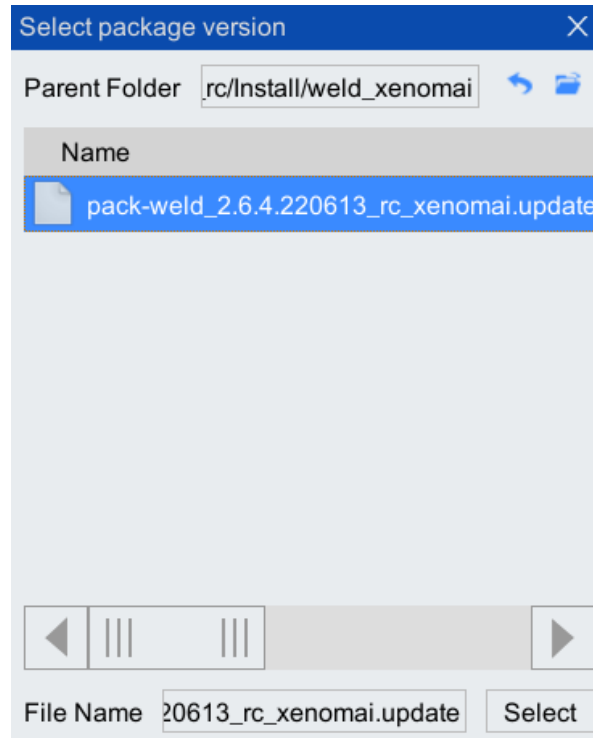

Figure 4-4 Selection interface of install feature pack
Step6. Double-click "USB" folder, find the arc welding package installation file under the USB folder, enter the interface shown in Figure 4-4, and then click "Select" button.